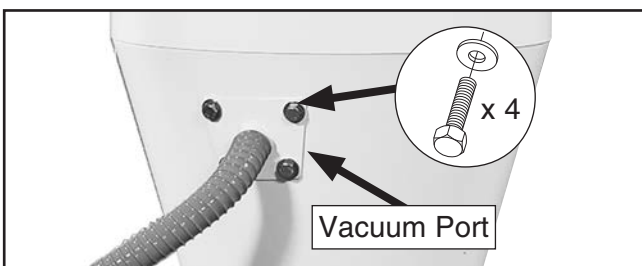

Figure 22. Cyclone vacuum tube and hose attachment.
23. Attach vacuum port to cyclone funnel with (4) $\frac{5}{16}$ "-18 x $\frac{3}{4}$ " hex bolts and $\frac{5}{16}$ " flat washers (see **Figure 22**).